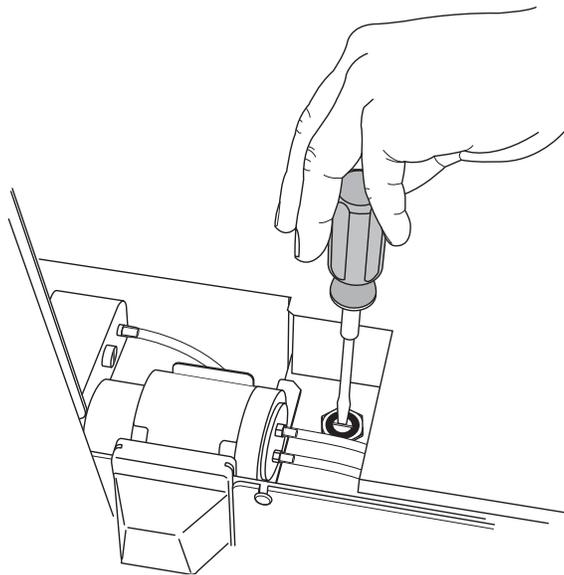

Figure 5-9 Adjusting the Pressure Relief Regulator
- Remove the plastic cap from the top of the spring cap mechanism. Use a flat bladed screw driver to adjust the spring cap until the emergency valve opens at 140 ± 5 cmH₂O (137 ± 5 mbar) (see Figure 5-9).